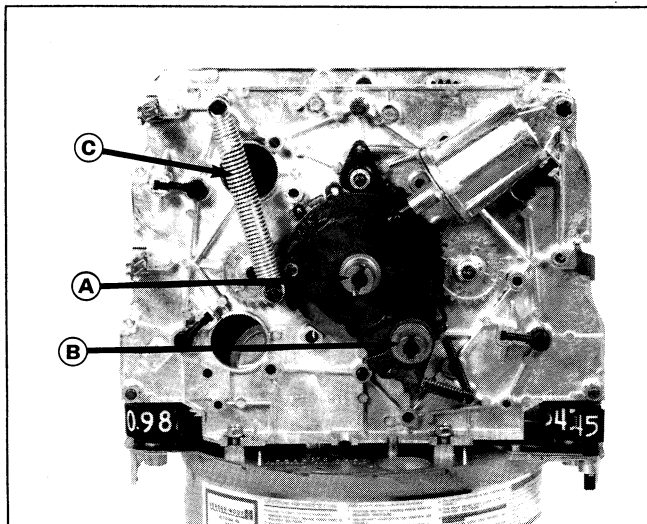

Figure 47.
2. Reset Mechanism Stalls (Figure 47).